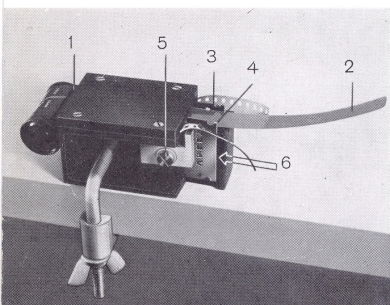

fig. 1
The tail of the 35 mm film must be taped as shown in fig. 1. The tail is engaged in slit (1) Fig. 2, and pushed until it protrudes on the other side of the box between the two razor blades (3) and (4). Pull tail (2) gently until blades engage in film.